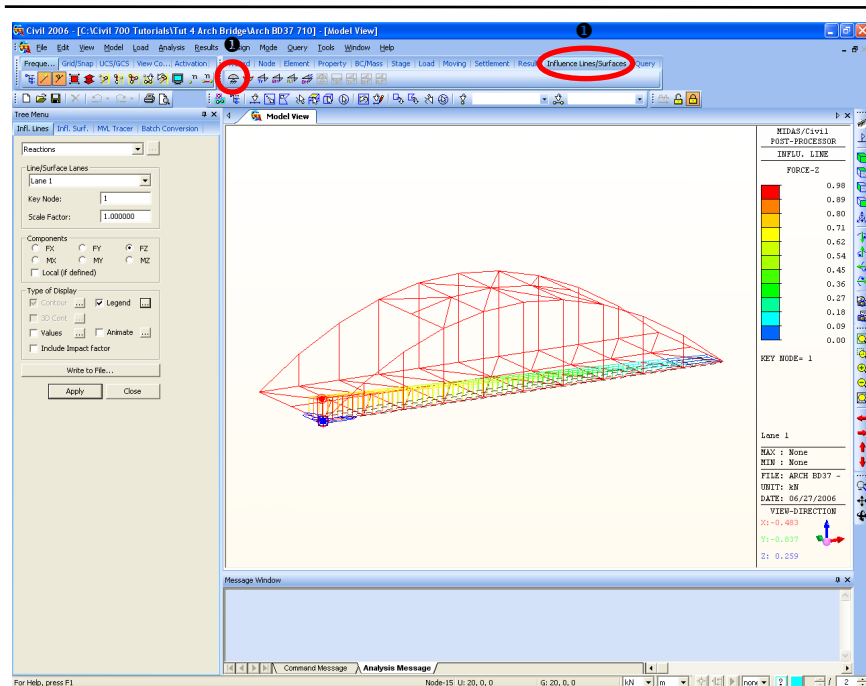

Figure 4.29 Reaction Influence Line
First we will examine the influence lines for a support reaction. Figure 4.29 shows the results for support B1 (node 1).
3. Click  **Reactions** on the **Influence Lines/Surface** tab in the toolbar (Figure 4.29).